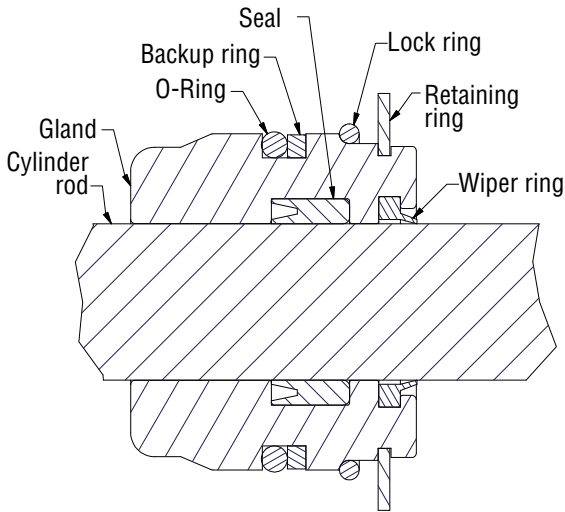

Figure 4-6, Gland Cap Seal
2. Note the direction of the seal on the piston. Improper installation will result in poor performance. The cupped side or O-ring side of the seal should be facing the gland cap. (Figure 4-6)